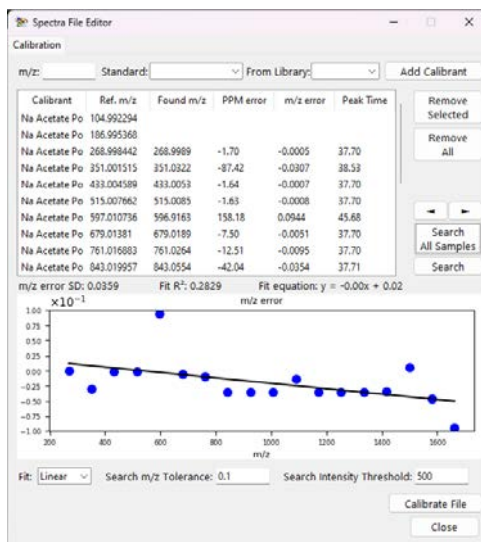

Fig. 6: File Editor calibration pane.
- e. **File Editor (Fig. 6)** allows you to calibrate your mzML and MzXML spectra files. You build a calibrants list out of individual m/z values, standard calibrants or glycans from your library and search for them in one or all the sample. Once the search is done, the mass errors, peak retention time and other information about each calibrant will be displayed on the tree view panel and a plot will be draft showing the mass error, in m/z ,